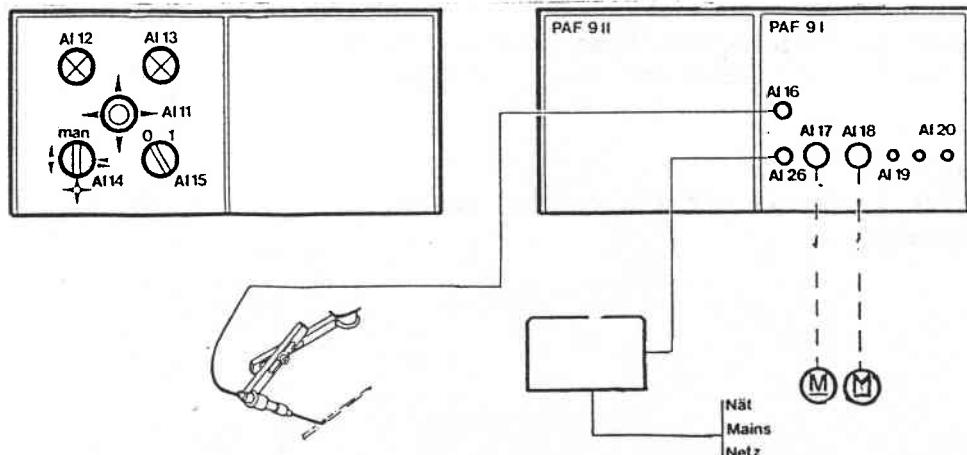

Fig. 2
Item nos. as per Fig.2 and Fig.x
- 3 For controls, see PAF9, Fig. 2.